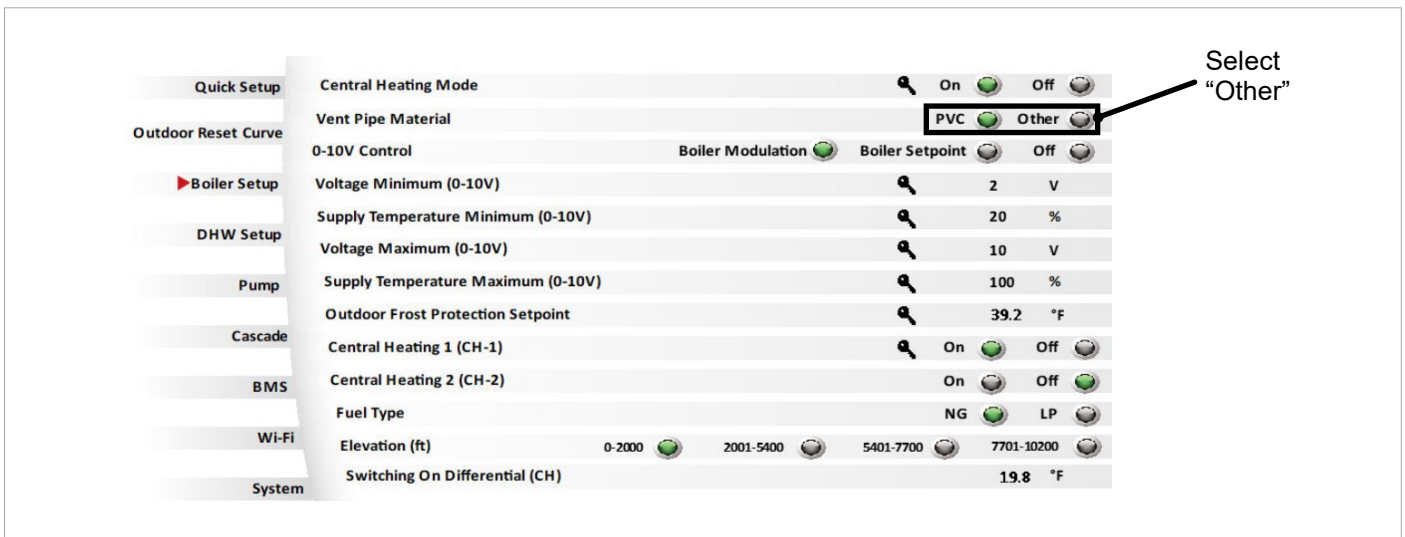

Fig 2
3. Change the parameter “Vent Pipe Material” from “PVC” to “Other” to allow for higher vent temperature (Fig 2).